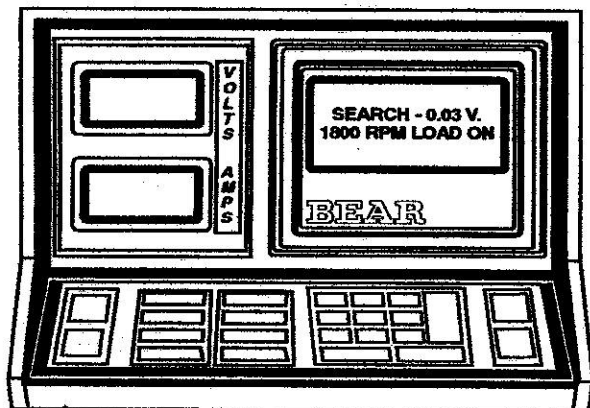

Figure 22
- A. Press [LOAD ON/OFF] once to put the load on. The bottom line of the display reads "LOAD ON" (see Figure 22).